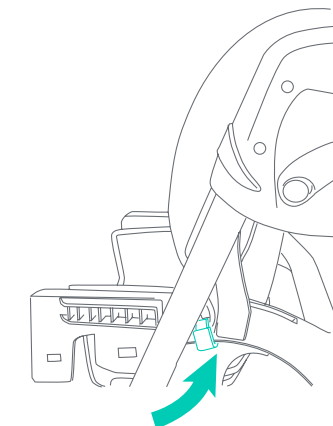

Fig. 22b
- Attach each anchor hook of the Seat Pad to the side of the seat armrest (Fig. 22b).